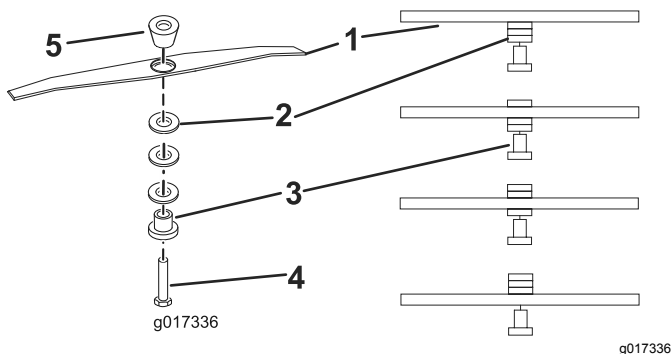

Figure 13
5. Reposition the spacers to the desired height, reinstall the blade retainer and spacers (Figure 13,) and tighten the bolt to 25 N-m (18 ft-lbs).